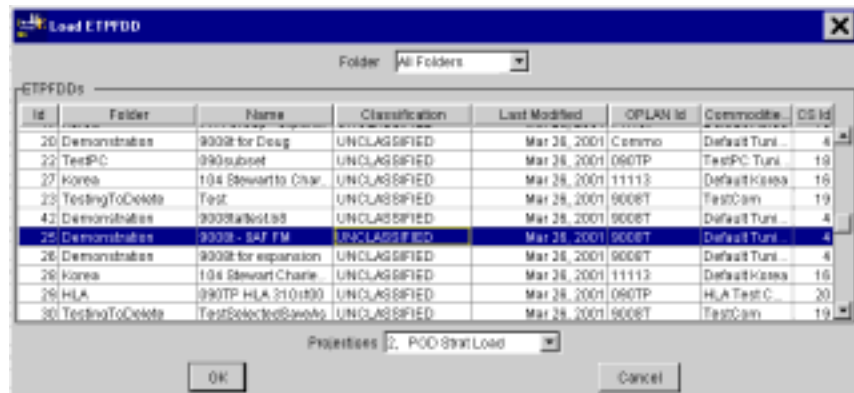

Figure 5.1 Load ETPFDD Window
1. On the ETEdit (main) window, on the File menu, click Load. The Load ETPFDD window opens (Figure 5.1).